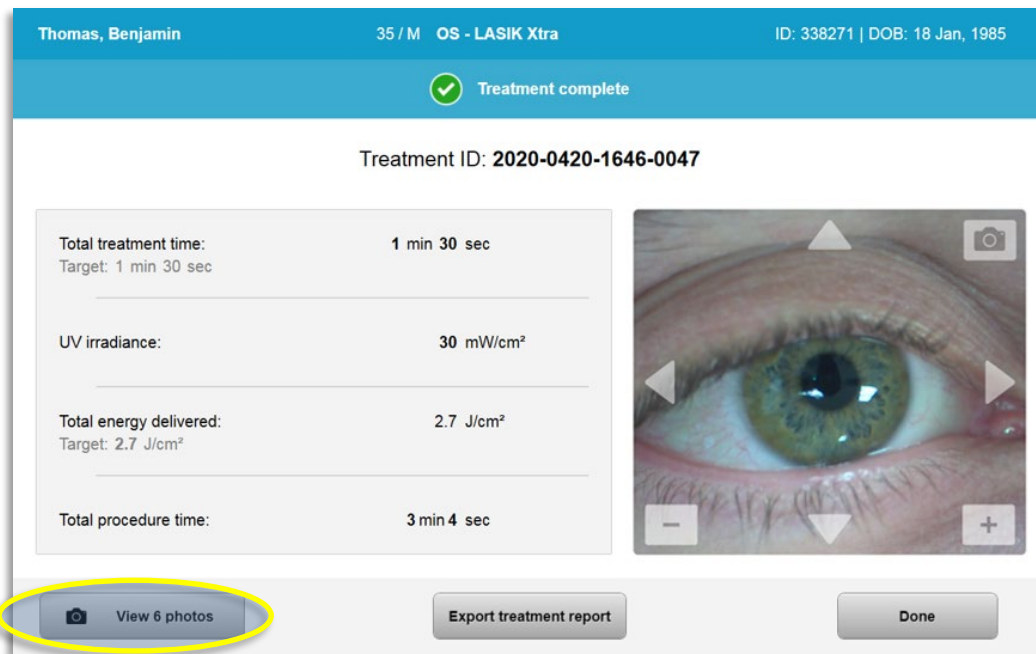

Figure 3-32. Treatment Complete Screen
- At the completion of a treatment, a summary of treatment parameters will be displayed, and the screen will show “Treatment complete” as shown in Figure 3-32.
- Select “View Photos” to enter the photo gallery as shown in Figure 3-32.